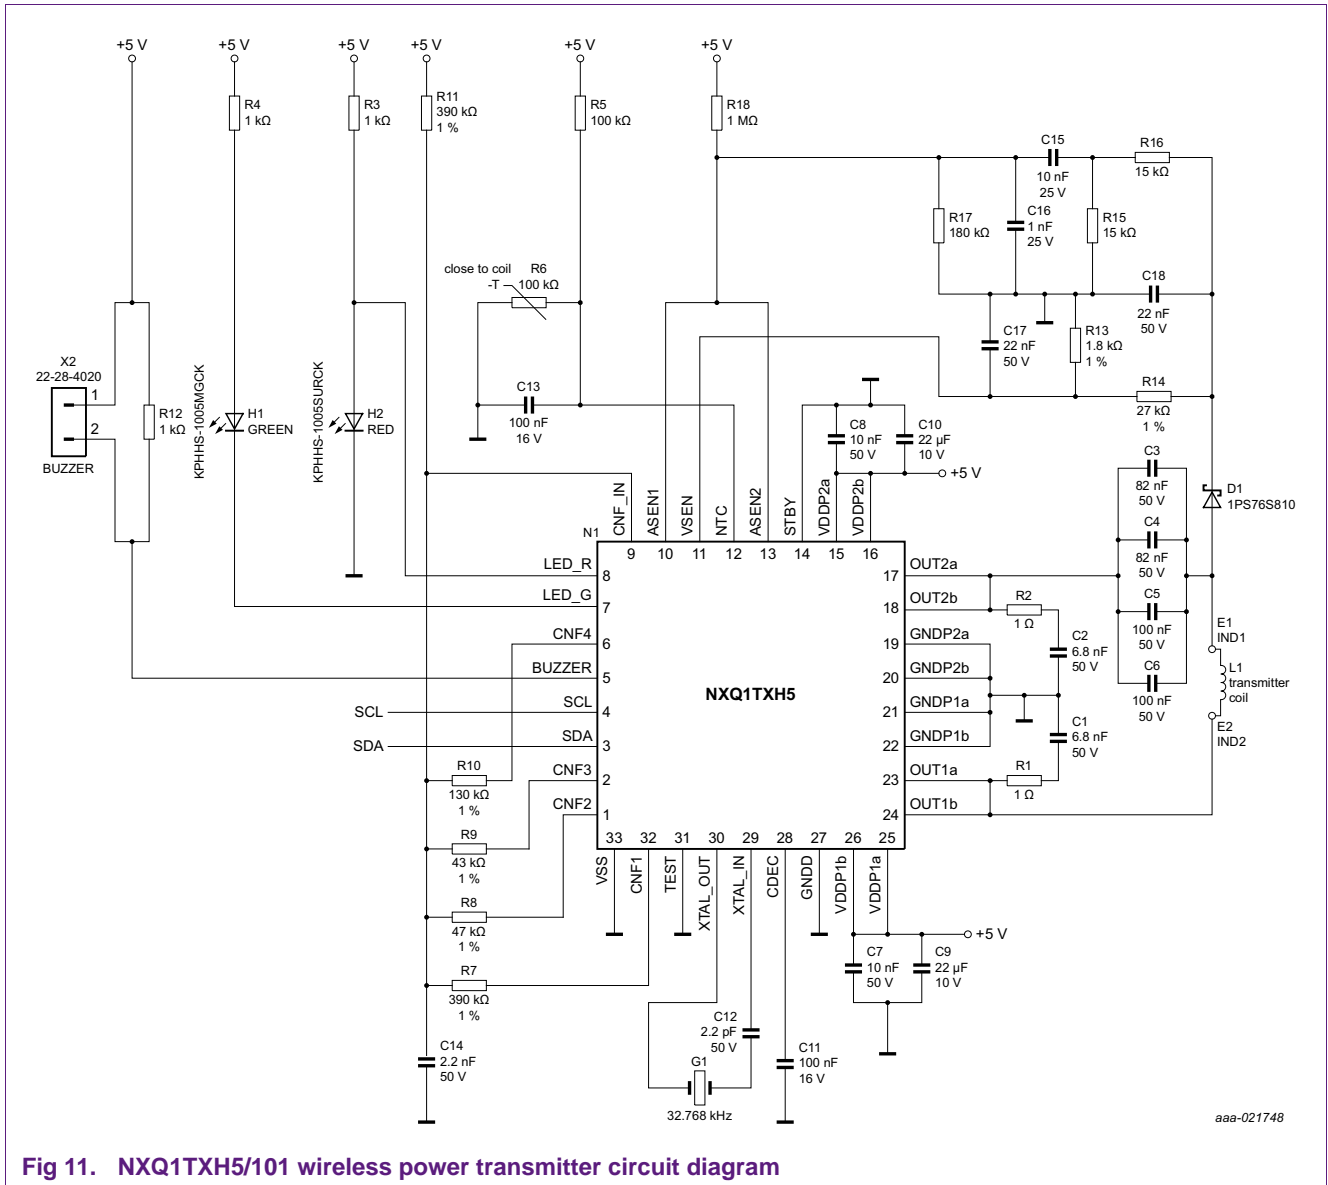

Fig 11. NXQ1TXH5/101 wireless power transmitter circuit diagram
- [1] Resistor R10 is connected in series with 390 k Ω resistor (R11) to V_{DDP} ; see application diagram (Figure 11). Different resistor values can be used provided the ratio between R10 and R11 is maintained; use 1 % tolerance. The resistance values are calculated assuming $V_{\text{DDP}} = 5\text{ V}$; to compensate for changes in the supply voltage level, the equation is automatically adjusted.
One or more thermal tripping points can be implemented using the NTC pin of the NXQ1TXH5/101 IC. Figure 11 shows the implementation of a single temperature measurement point. NTC resistor R6 can be placed in the coil center. So the legacy devices with Qi 1.0 receivers can be supported and protected. The combination of resistors R6 and R5 determines at what temperature the thermal protection trips and at what temperature normal operation resumes.
Figure 11 shows a full basic circuit diagram for a NXQ1TXH5/101 wireless power transmitter application.